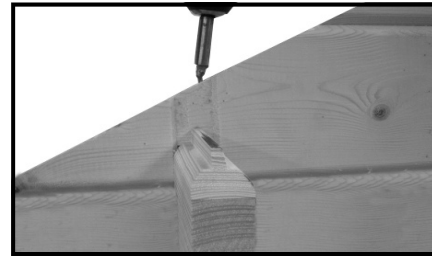

Fig E1
3. Fix the gable with 1x80mm screw at each end (fig E1) and as shown on the drawing pages (Some screws may go into roof joists)